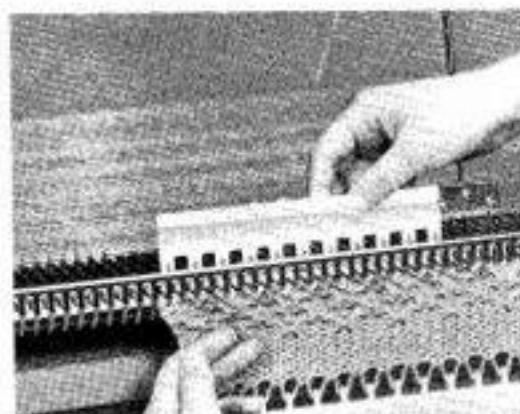

Fig.77
To draw out the needles in 1 x 1 formation to position (E) with the 1 x 1 selector plate, it is advisable at the same time to hold with your left hand the knitting back against the sinker plate. (Fig.77)